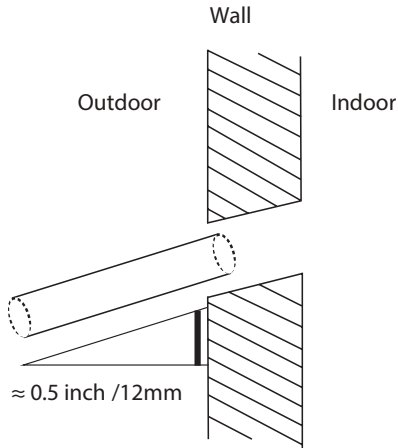

Fig. 6.5
- Using a 2.5" (65-mm) core drill, drill a hole in the wall. Make sure that the hole is drilled at a slight downward angle, so that the outdoor end of the hole is lower than the indoor end by about 0.5" (12mm). This will ensure proper water drainage (See Fig. 6.5). Place the protective wall cuff in the hole. This protects the edges of the hole and will help seal it once you finish installation.